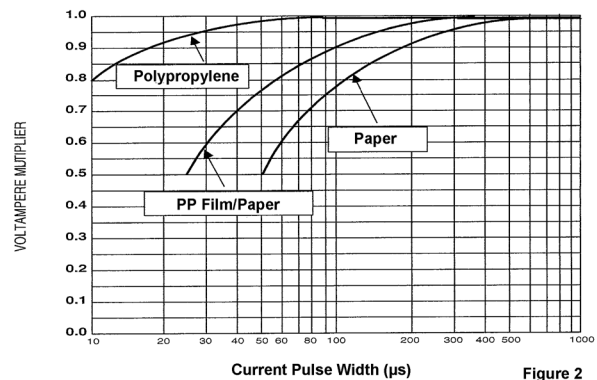
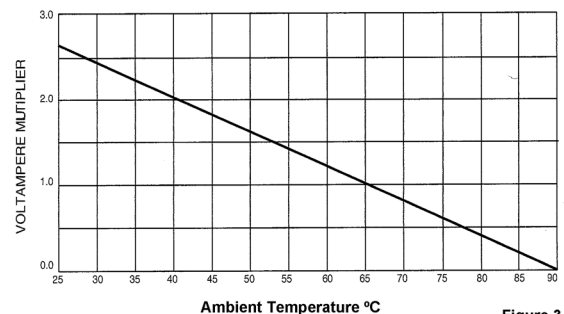

Figure 2
Figure 3
4. Check that your application's volt-amperes is not more than the capacitor's VA capability. The VA capability is the max VA rating times the Volt-Ampere multiplier from Figure 2 (Current Pulse Width) and that times the Volt-Ampere Multiplier from Figure 3 (Ambient Temperature). See the following section for more on using volt-ampere multipliers.
The capacitor's maximum VA rating is the maximum product of the sine wave voltage and current that may be applied at 65 °C without overheating the capacitor and reducing its expected life. For other temperatures and pulsed current, use the multipliers of Figures 2 and 3 to derate the Max VA rating.